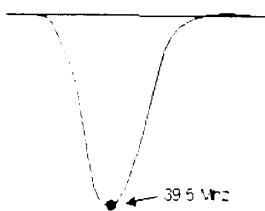

Fig 3.
#### Alignment Step (see fig.3)
- 2: Adjust T104 (TANK COIL) to obtain maximum amplitude of response at 38.9MHz as in Fig.3.